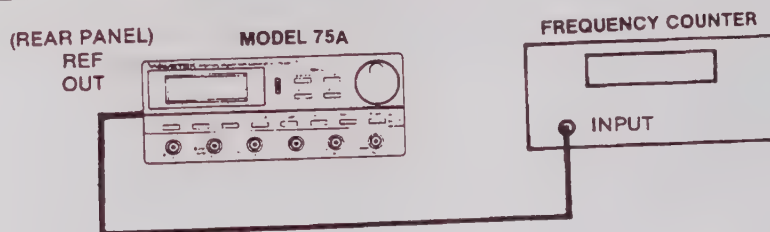

Figure 5-4. Frequency Verification Equipment Connection
1. Interconnect the Model 75A and test equipment as shown in figure 5-4.